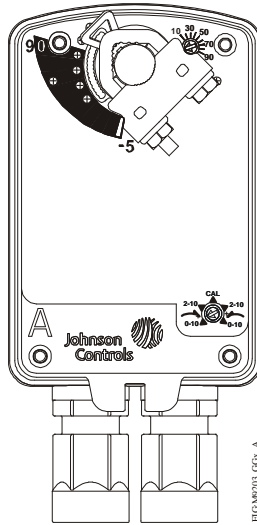
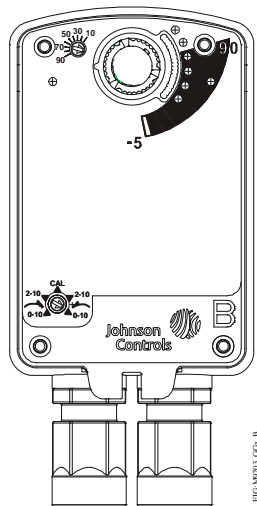

Figure 2: Actuator Side A
Figure 3: Actuator Side B
For CCW spring return direction, mount the actuator to the damper shaft so that Side A of the actuator is away from the damper as illustrated in Figure 2. With power applied, the actuator drives CW from the 0° position and spring returns CCW.
For CW spring return direction, mount the actuator to the damper shaft so that Side B of the actuator is away from the damper as illustrated in Figure 3. With power applied, the actuator drives CCW from the 0° position and spring returns CW.
The M9203-xxB-2(Z) models include one integral auxiliary switch with a switch adjuster accessible on either face of the actuator. (See Figure 2 and Figure 3.) The factory setting for the Auxiliary Switch is 11° closing (relative to the 0 to 90° rotation range as printed on the product label). See the *Technical Specifications* table for the auxiliary switch ratings.